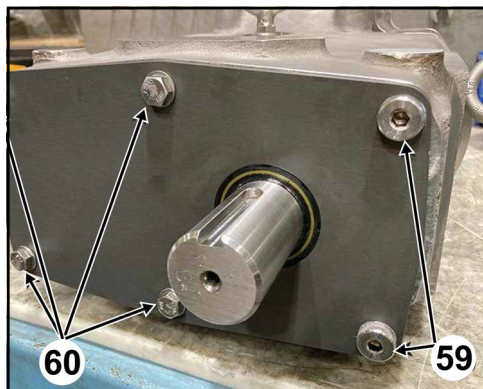

Figure 147 - Remove fasteners
2. Remove the fasteners from the gear case cover; the two socket head shoulder bolts (Figure 147, item 59) from the two holes by the drive shaft, and the four (six on the 220 and 224-UTS) hex head cap screws (item 60) from the remaining holes.